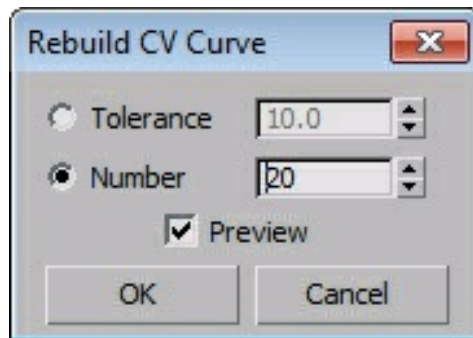

Figure 10-85 The *Rebuilt CV Curve* dialog box
6. Select the **Curve** sub-object level. Next, select the curve in the viewport. Now, choose the **Rebuilt** button in the **CV Curve** rollout; the **Rebuilt CV Curve** dialog box is displayed. Now, set **20** in the spinner next to the **Number** radio button, refer to Figure 10-85. Next, choose the **OK** button. Click on the **Curve** sub-object level to deactivate it.